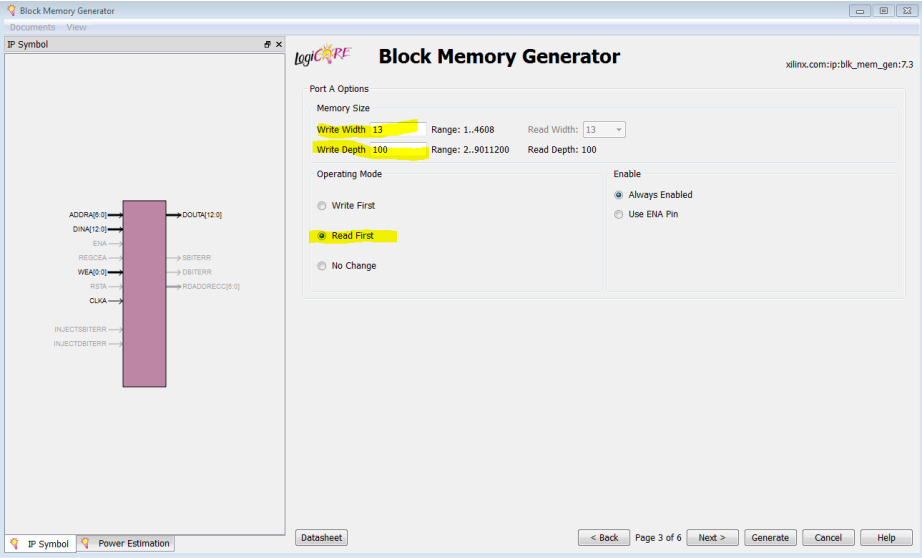

Figure 5-22 Edit port options
3. Click Next for the first two pages of the Block Memory Generator, then on page 3 (Port A Options), change the Write Width to 13, the Write Depth to 100, and select Read First, as shown in Figure 5-22. Then click Next.